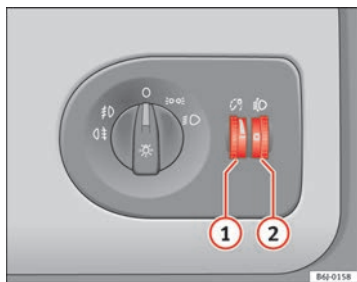

Fig. 52 Instrument panel: regulation for instrument and switch illumination and headlight range control
When the headlights are switched on, the brightness of the instruments and switch lighting can be regulated to suit your requirements by turning the thumb wheel ⇒ fig. 52 ①.